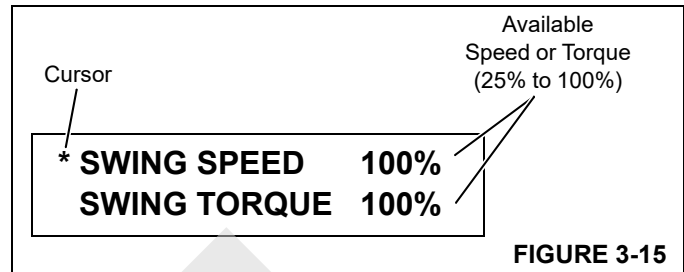

FIGURE 3-15
2. Access diagnostic screens (Figure 3-15):